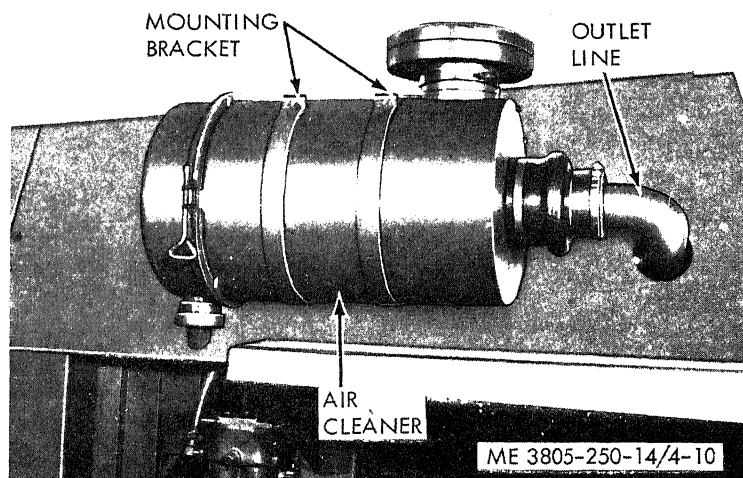

Figure 4-10. Air cleaner, removal and installation.
b. Removal (fig. 4-10).
- (1) Loosen the clamp securing the outlet line to